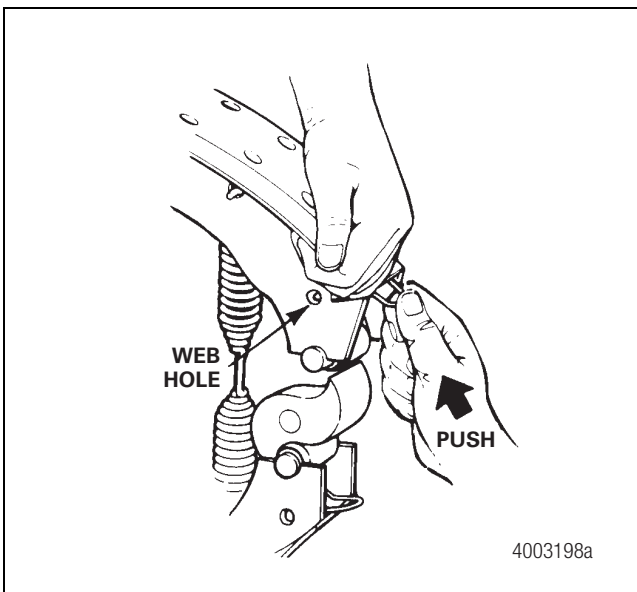

Figure 5.6
- Push each roller retainer clip into the brake shoe until its ears lock in the holes in the shoe webs. Figure 5.6.